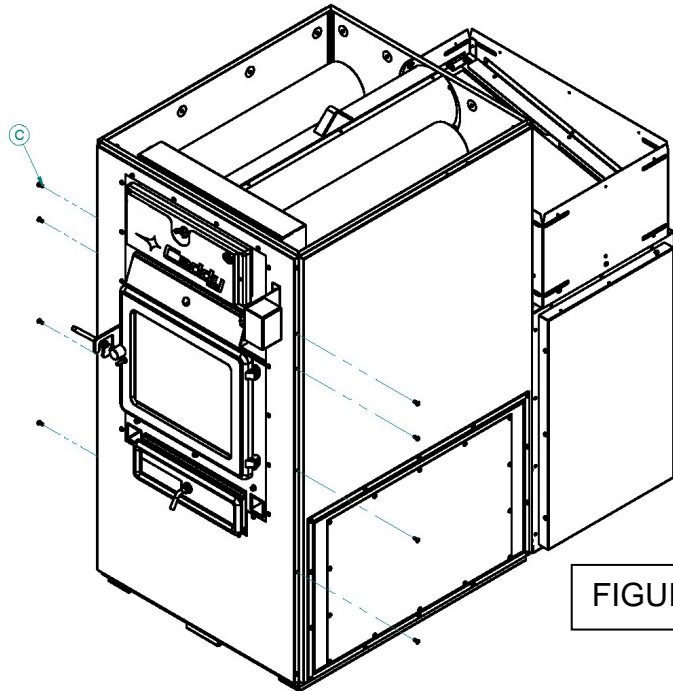

FIGURE 3
Step 3: Unscrew the eight (PF01010) or six (PF01000 or FP01200) screws (c), depending on the furnace version, as shown on figure 3. Keep the screws.